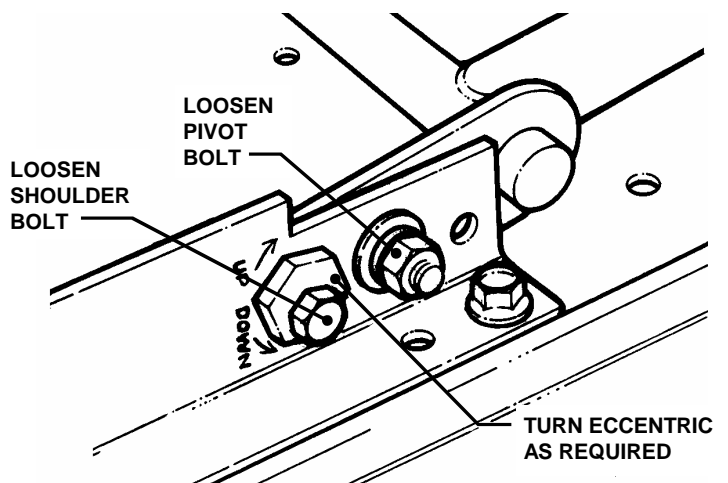

FIGURE 4.2
g. Turn eccentric "UP" or "DOWN" as required until blade tips are within 1/8" of the same distance from the floor. See Figure 4.2.